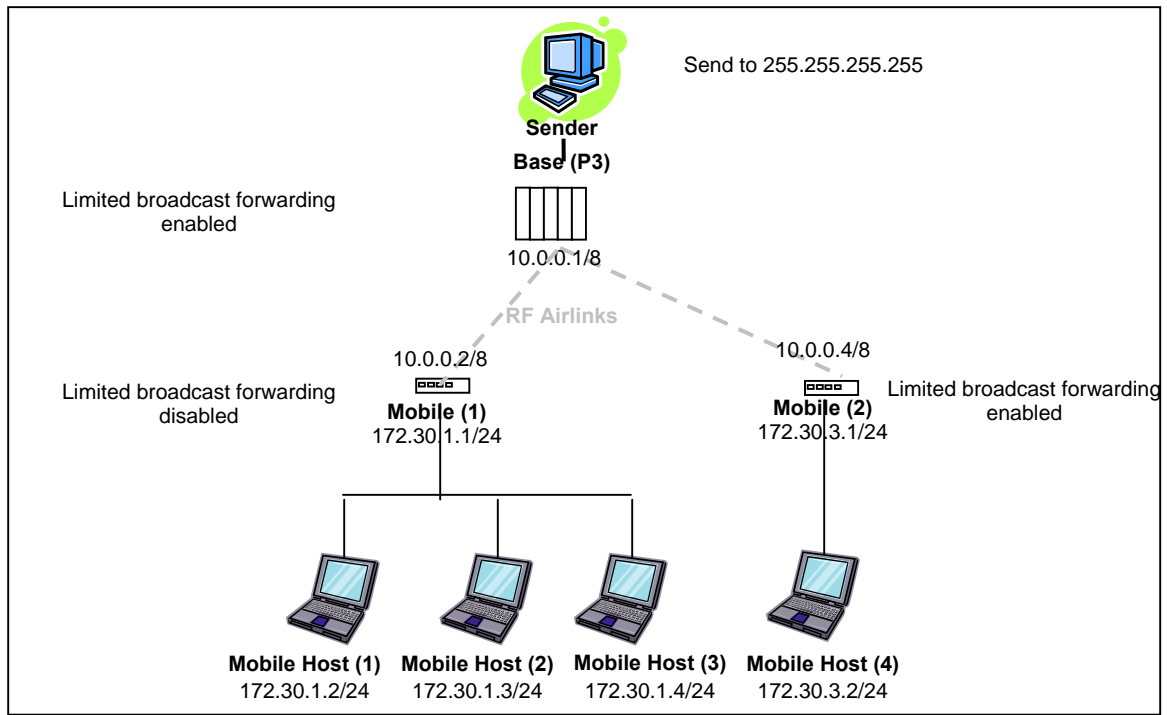

Figure 51 - Example of Limited broadcast forwarding disabled
In this example (Figure 51), limited broadcast forwarding is enabled on the **Base** unit, disabled on the **Mobile (1)** unit and enabled on the **Mobile (2)** unit. If **Sender** sends a packet to destination address 255.255.255.255, the packet would reach **Mobile Host (4)** only. The **Mobile (1)** unit would discard any limited broadcast packet it received from the **Base** unit.